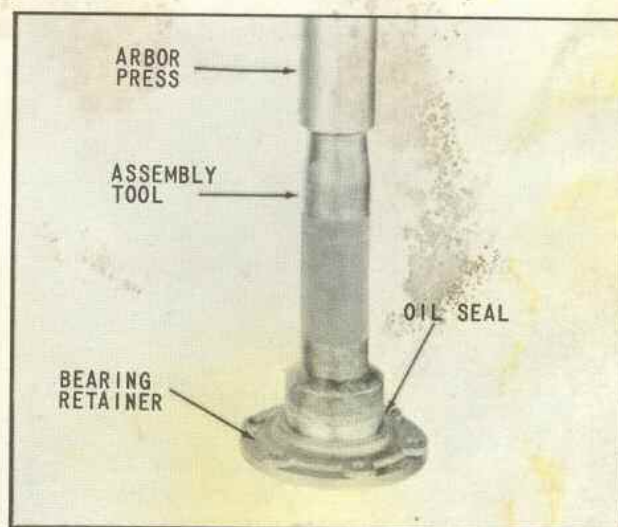

Fig. 22 Pressing Oil Seal in Retainer
3. Using arbor press and suitable tool, as shown in (Fig. 22), press the oil seal into the bearing retainer until the rear face of the oil seal is flush with the rear face of the bearing retainer.